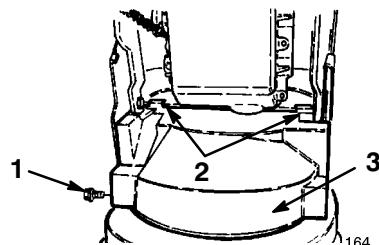

Figure 4
11. Install the lower belt cover on the underside of the auger/impeller housing and the engine frame with two 1/2-inch (1 mm) flange head cap screws (Fig. 4).
14. Mount the upper belt cover to the engine frame with three 1/2-inch (1.3 cm) flange head cap screws (Fig. 4).